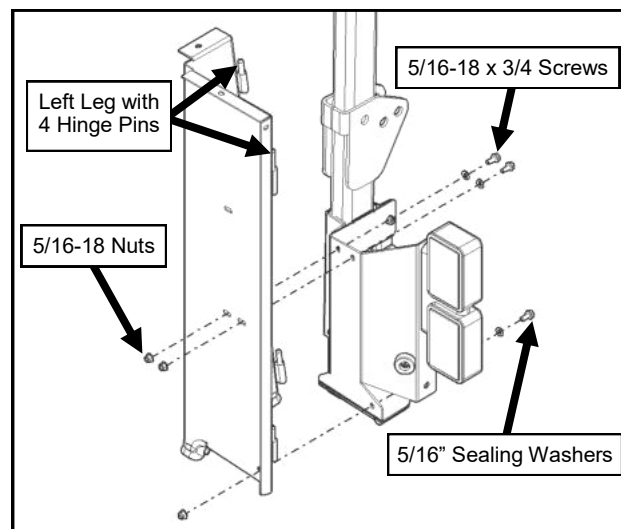

Fig. 3.1 (Loosely Secure Left Rear Leg)
**3.1** With a helper, set the left rear leg in place on the rear fender against the ROPS bracket. See figure 3.1. Loosely secure to the ROPS bracket with sealing washers on all the screws.